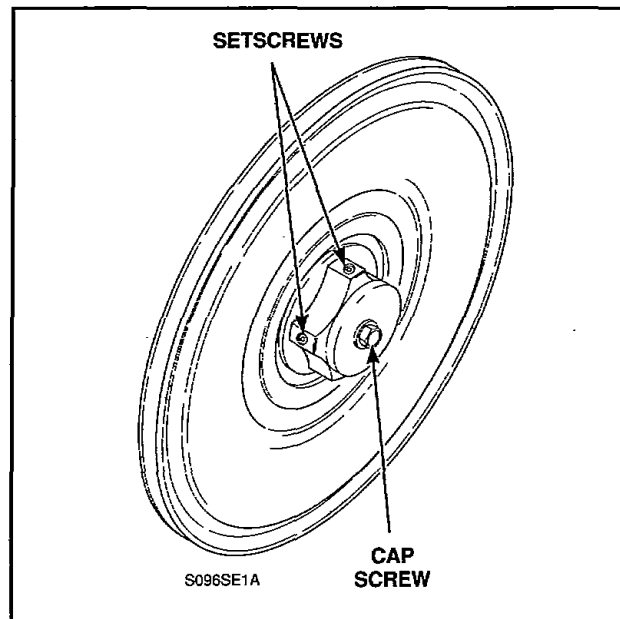

Figure 39
- Remove cap screw, lockwasher and flat washer from end of cylinder shaft, *Figure 39*.
- Loosen two setscrews, *Figure 39*, holding pulley and hub assembly to cylinder shaft and pull pulley off shaft.
- d. Remove cap screw, lockwasher and flat washer from end of cylinder shaft, *Figure 39*.
- e. Loosen two setscrews, *Figure 39*, holding pulley and hub assembly to cylinder shaft and remove pulley off shaft.
- Loosen two setscrews, *Figure 39*, holding pulley and hub assembly to cylinder shaft and remove pulley off shaft.